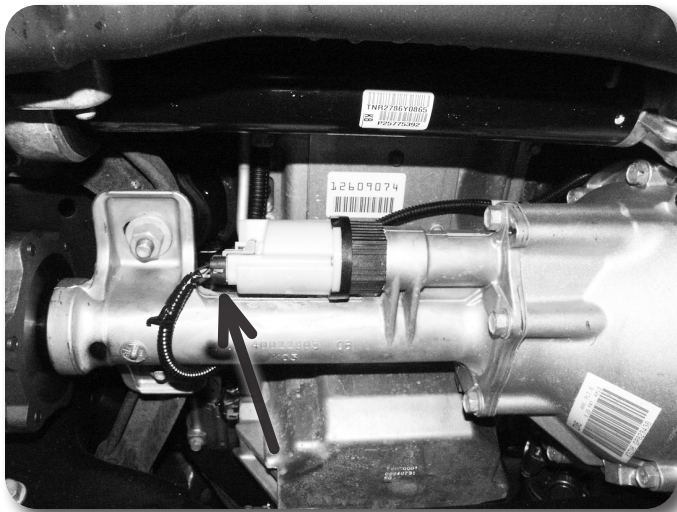

Figure 10
17. Disconnect the differential actuator wire connector from the actuator **Figure 10**. Remove the three wire harness clips holding the actuator harness to the differential housing.
21. Support the front differential with an appropriate jack. Remove the two driver's side differential mounting bolts Figure 13 and the two passenger's side mounting nuts Figure 10. Carefully lower the differential to the ground. Save mounting hardware.